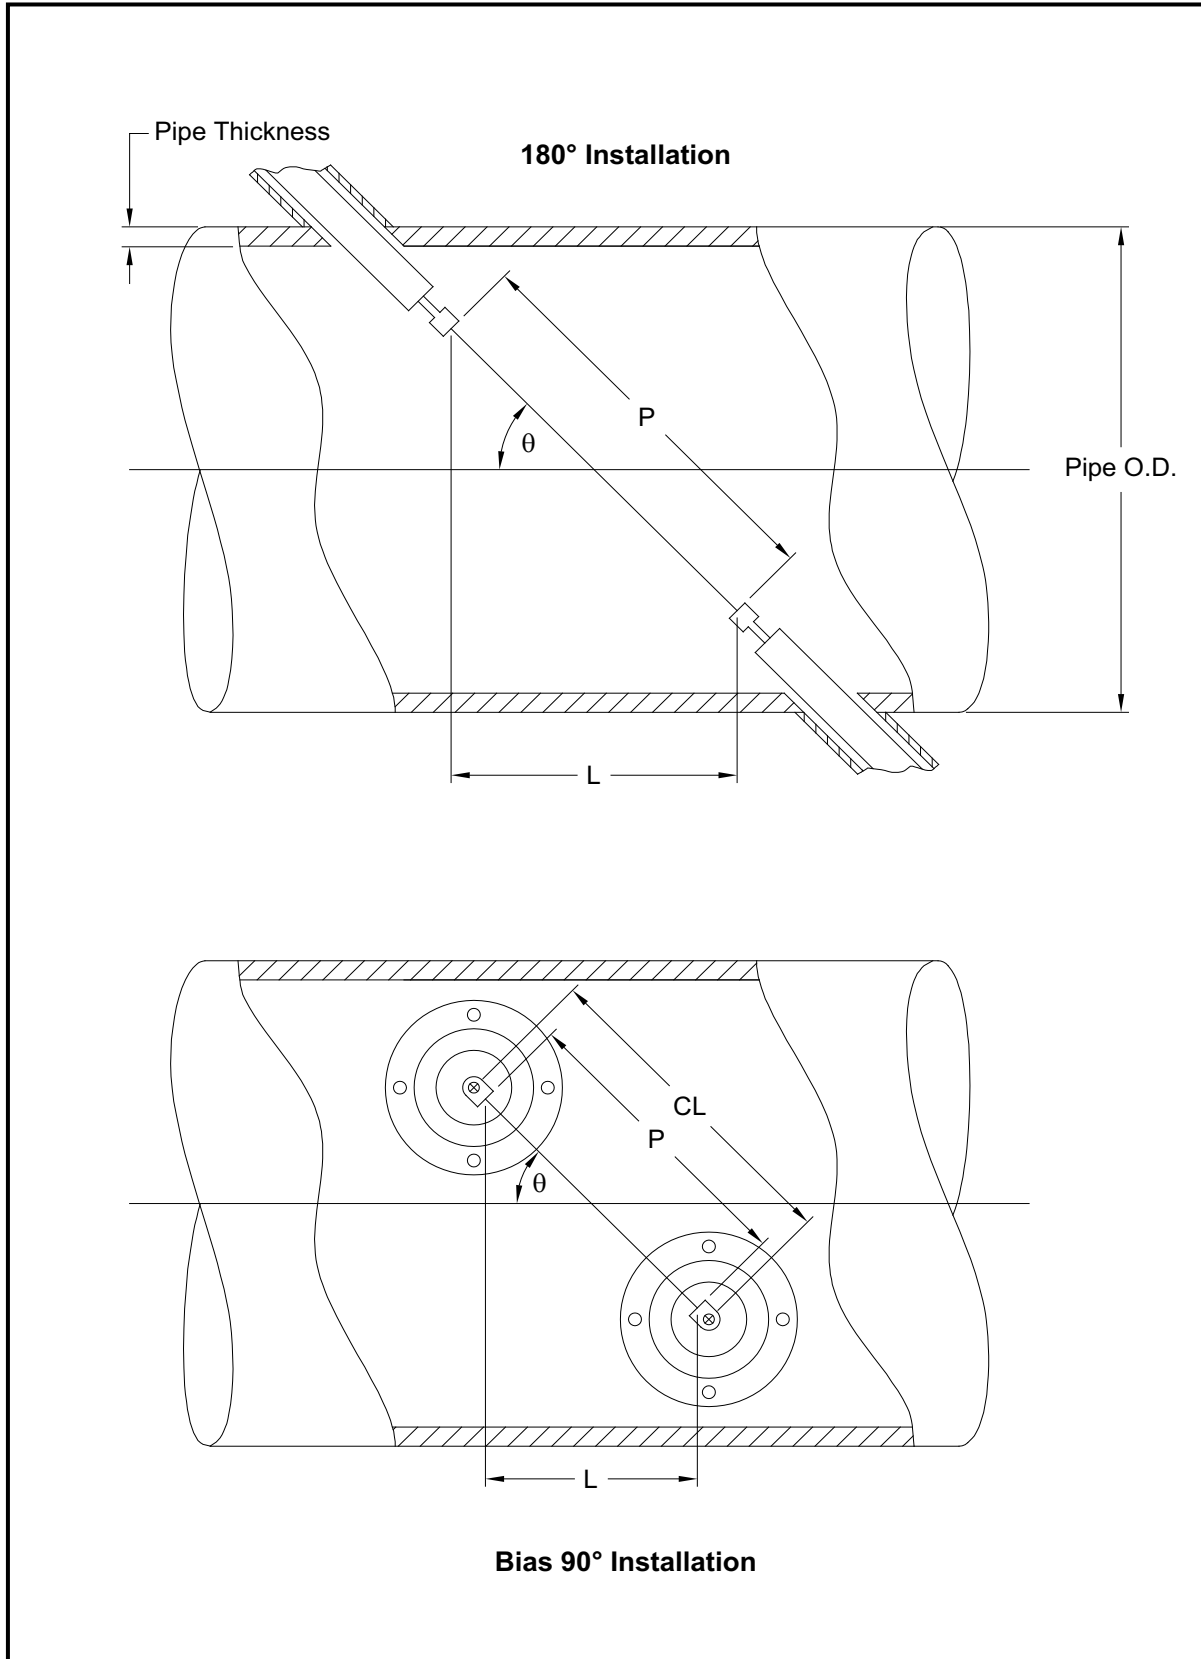

Figure 17: Top View of Transducer Installations
The accuracy of the programmed P and L values is critical to precise flow rate measurements. If Panametrics supplies the flowcell for the system, the correct values will be included in the documentation supplied with the unit. For transducers installed on an existing pipe (see Figure 17 on page 58), P and L must be measured at the site. This appendix provides instructions for properly determining these dimensions.
Whenever possible, physically measure the face-to-face distance (P) and the axial distance (L) between the centers of the flat faces of the transducers. Refer to Figure 17 on page 58 for an illustration of the proper distances to measure in a typical installation.
With a Bias 90° transducer installation, it sometimes happens that the only known parameters are the transducer angle (θ) and the centerline distance between the transducer bodies (CL). In these cases, it is still possible to calculate both P and L by combining the first equation above with the second equation below (see Figure 17 on page 58):